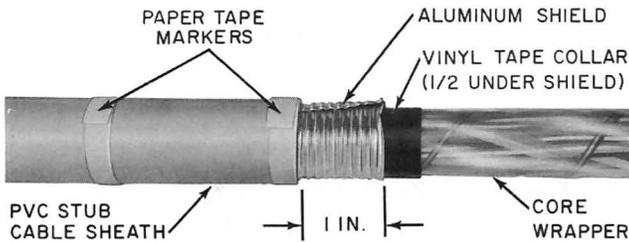

Fig. 5—Vinyl Tape Collar
5.04 Slide the collar so that one half of the collar is under the aluminum shield. This will help to prevent damage to the conductors (Fig. 5).